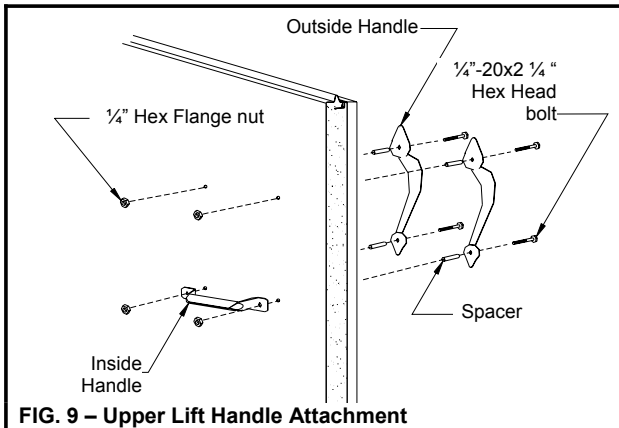

FIG. 9 – Upper Lift Handle Attachment
Step 10: Attach each vertical ornamental handle (outside) and one steel horizontal roll grip handle (inside) to the door using two 1/4"-20 x 2 1/4" black painted hex head bolts, and two 1/4" hex nuts. Use a set of hex head bolts and hex flange nuts to fasten the vertical handles to the door through the remaining holes. The inside handle may be matched with either set of holes so long as it is no closer than 4" to the top or bottom of the section (See Fig. 9).